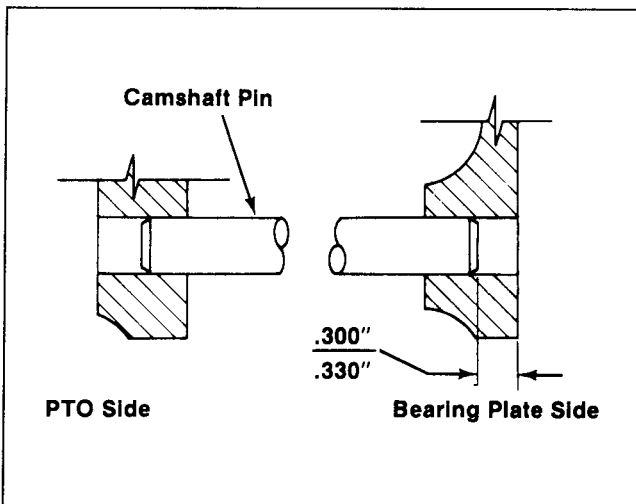

Figure 12-8. Installing Camshaft Pin.
- b. For Models K241, K301, K321, and K341 – drive the camshaft pin to a depth of  $.300''$  /  $.330''$  from the machined bearing plate gasket surface. Refer to Figure 12-8.